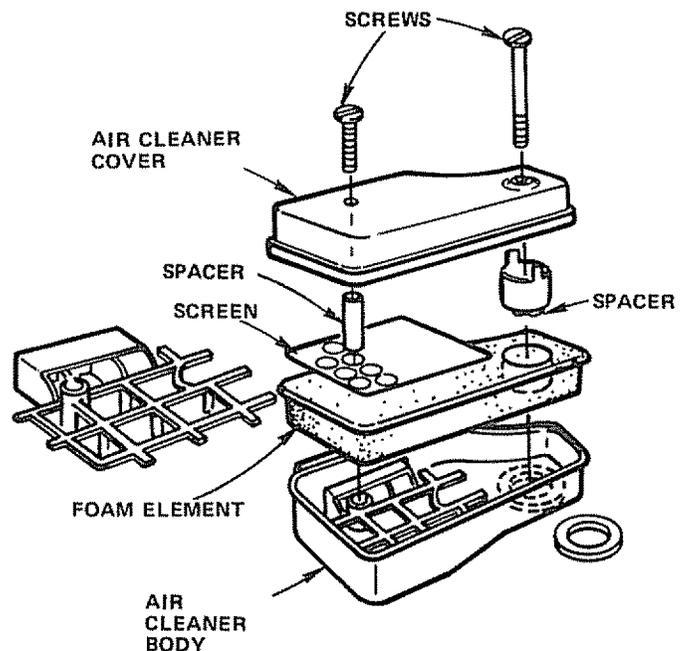

FIGURE 28
1. CLEAN AIR CLEANER ELEMENT (FIG. 28).